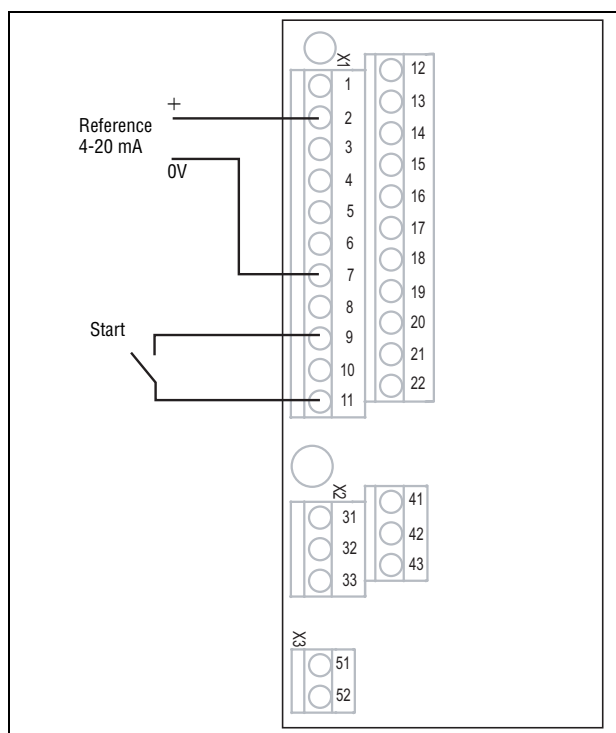

Fig. 34 Wiring
3. Connect a reference value between terminals 7 (Common) and 2 (AnIn 1) as in Fig. 34.
4. Connect an external start button between terminal 11 (+24 VDC) and 9 (DigIn2, RUNR) as in Fig. 34.
14. Connect digital and analogue inputs/outputs as in Fig. 34.